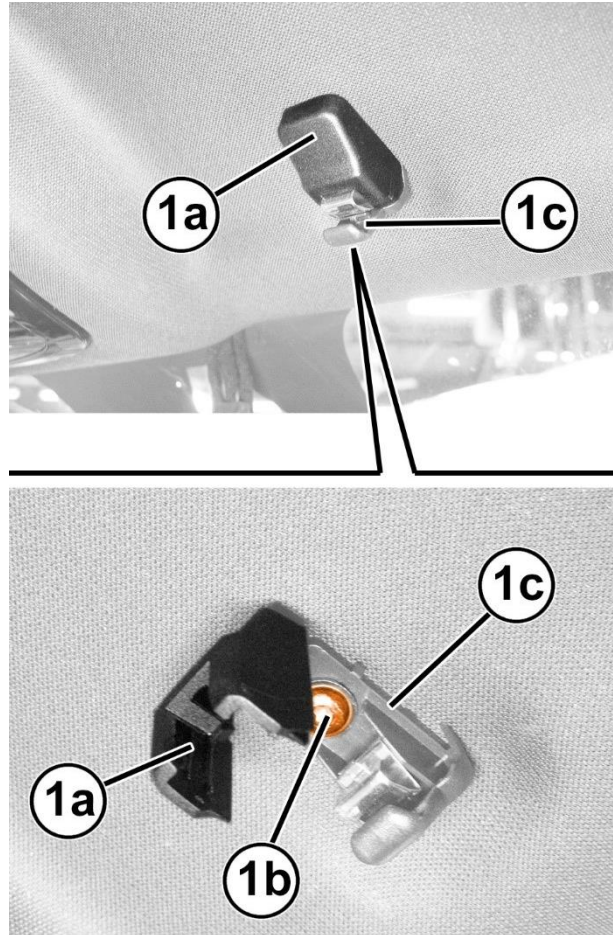

Figure 10 – Sun Visor Retainer
30. Release the cover (1a), remove the screw (1b) and then remove the retainer (1c) (Figure 10).